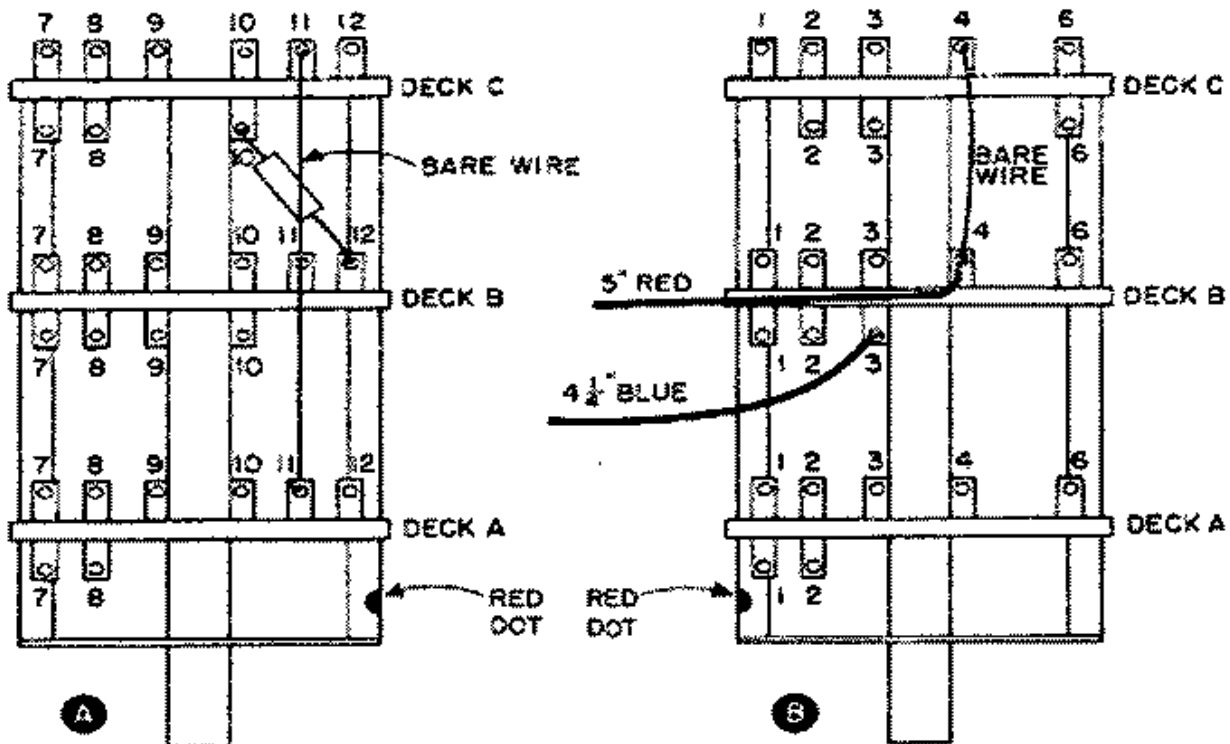

Figure 16 - Side view showing the wiring on deck B.
- ( ) Insert a 2" bare wire through the hole in terminal 11, back of deck A from the front of the switch. Push the wire through terminal 11, back of deck B, and through terminal 11, back of deck C. Now bend a hook at terminal 11, back of deck A; cut off the excess wire and solder terminal 11, back of deck A. The position of this bare wire is shown in Fig. 16.